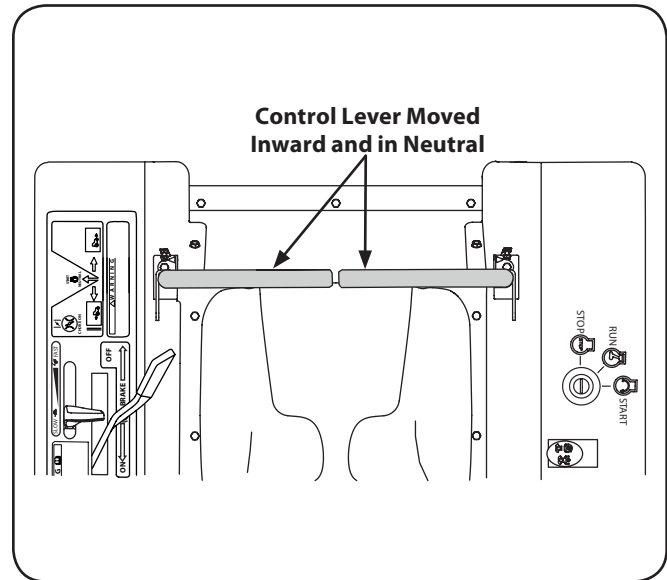

**Figure 5-1**
3. Move the RH and LH drive control levers inward in the neutral position. Refer to Figure 5-1.